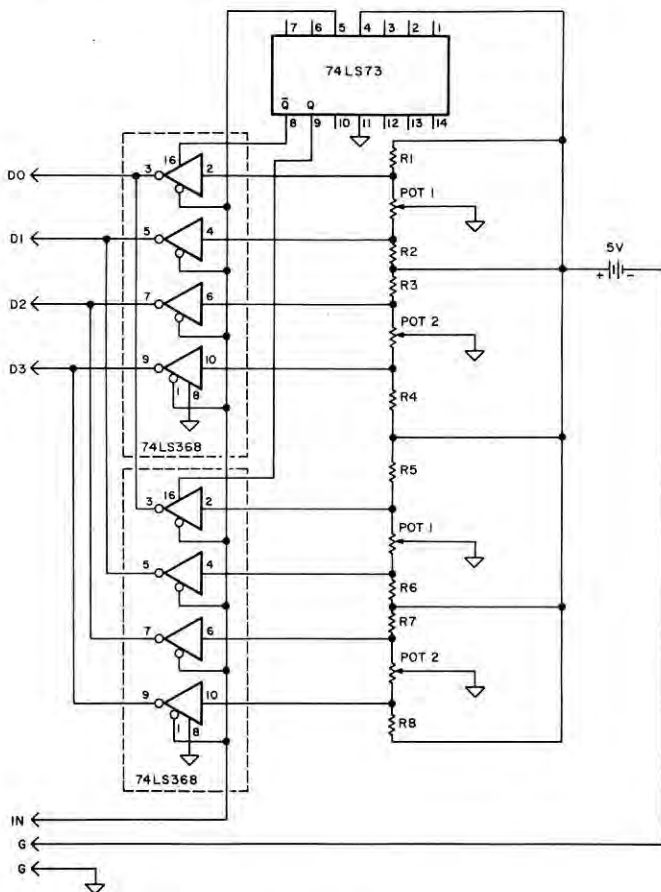

Fig. 2
- **Broken lines in Fig. 2:** indicate the wire jumpers that go on the underside of the PC board where the foil is.
Using Fig. 1 as a template, cut the mounting holes in the cover of one of the boxes. Mount the joystick, terminal strip, and push button switch to the underside of the cover. Connect a wire to the center tap of pot #2 and run it to the center tap of pot #1 then to terminal #3 on the terminal strip. (See Fig. 2). Solder a wire to the bottom tap of pot #1 to terminal #5 on strip. Fasten a wire to the top tap of pot #1 to terminal #4. Connect a wire to the top tap on pot #2 then to terminal #1. Run a wire from the bottom tap of pot #2 to terminal #2. Fasten a diode to each of the terminals (1, 2, 4, and 5) on the strip. The other ends, with the band around them, are soldered to one side of the push button switch. The other side of the switch is wired to terminal #3 on the terminal strip.